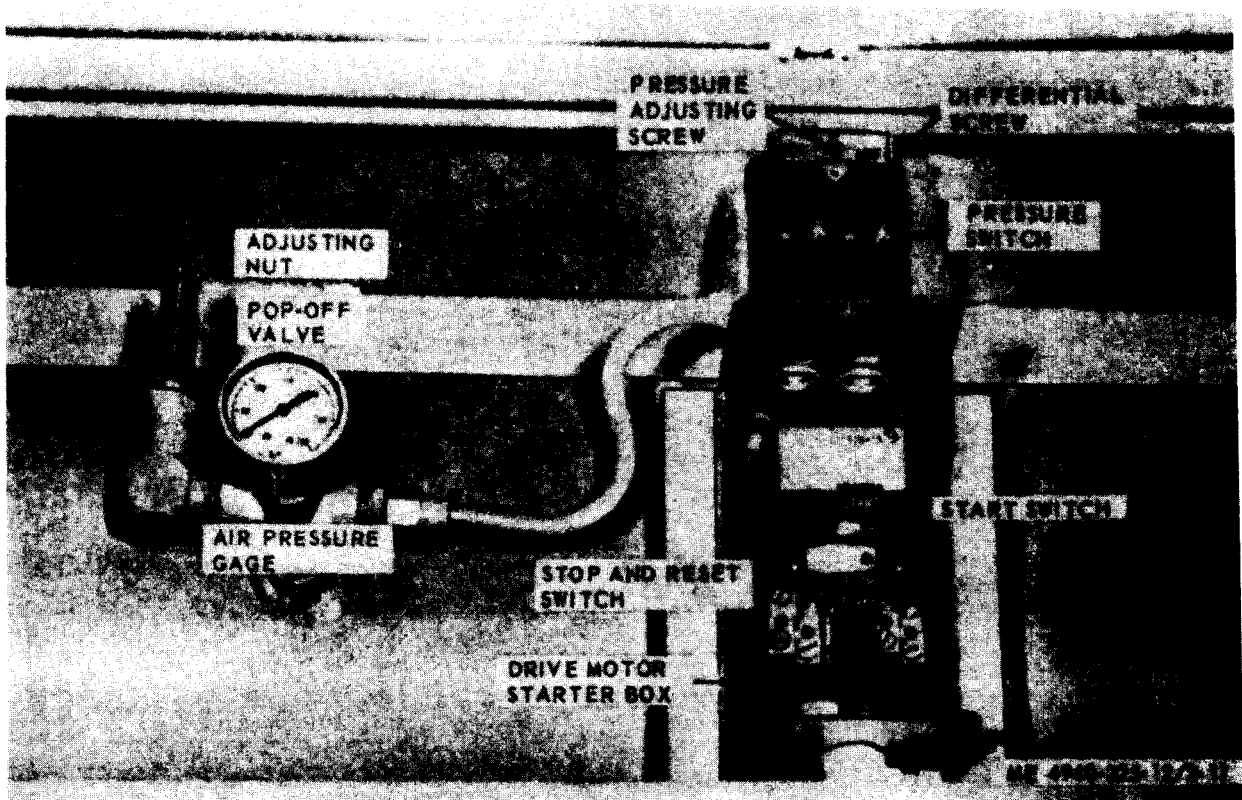

Figure 2-11. Air compressor drive motor controls and air receiver tank pressure gage.
b. *Air Pressure Gage.* The gage (fig. 2-11) shows the amount of air pressure in the shop set air
c. *Pressure Switch.* The switch (fig. 2-11) is a pressure-operated electric switch that automatically starts and stops the air compressor to maintain a minimum of 125 psi and a maximum of 150 psi.